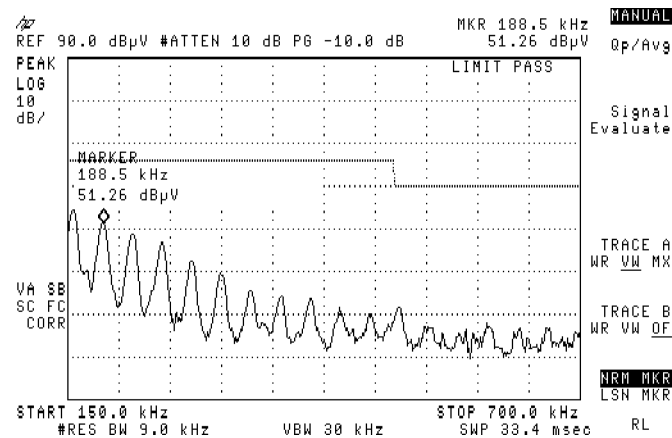

Figure 3-35. Moving the Marker to a Worst-Case Emission
29. Press **NRM MKR** and use the front-panel knob to move the marker to a signal of interest (a signal that appears to be close to or over the limit line). See Figure 3-35.